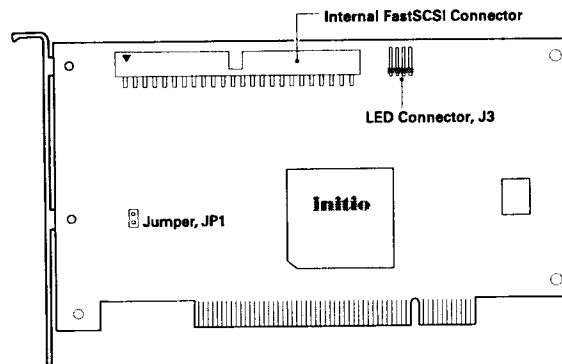

FIGURE 1 - INI-9100AS Board Layout
Before opening the INI-9100AS host adapter anti-static poly bag and installing the board, discharge static electricity by touching the computer chassis. FIGURE 1 (below) identifies major components pertaining to the board. You will find it helpful to refer to these illustrations while installing the host adapter and attaching its cables.
- The SCSI Activity LED connector shown in FIGURE 1 may be connected by an optional cable and routed to the host computer front panel if needed. The SCSI Activity LED cable and connector are not included but can be purchased separately.